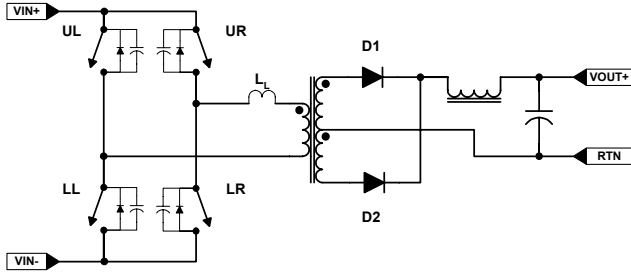
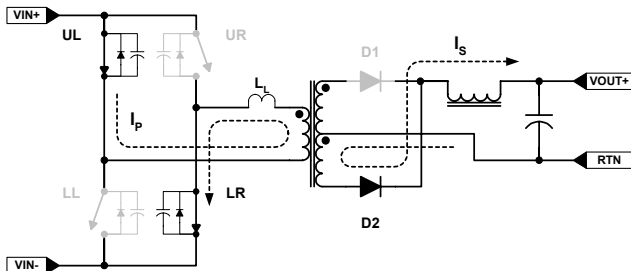

FIGURE 10. IDEALIZED FULL-BRIDGE
FIGURE 11. UL - LR POWER TRANSFER CYCLE
In Figure 10, the power semiconductor switches have been replaced by ideal switch elements with parallel diodes and capacitance, the output rectifiers are ideal, and the transformer leakage inductance has been included as a discrete element. The parasitic capacitance has been lumped together as switch capacitance, but represents all parasitic capacitance in the circuit including winding capacitance. Each switch is designated by its position, upper left (UL), upper right (UR), lower left (LL), and lower right (LR). The beginning of the cycle, shown in Figure 11, is arbitrarily set as having switches UL and LR on and UR and LL off. The direction of the primary and secondary currents are indicated by I_p and I_s , respectively.